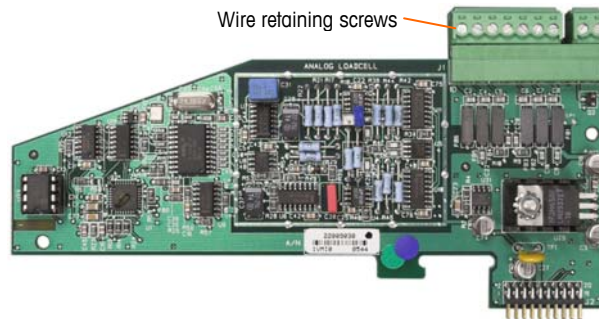
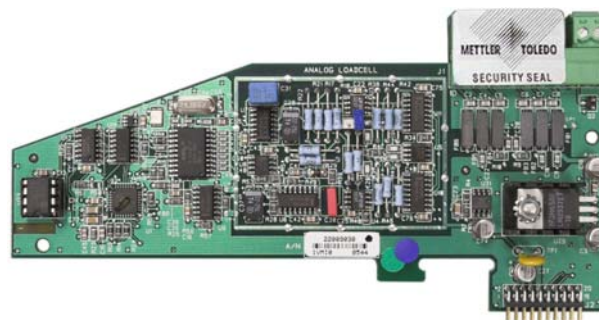

Figure A-93: Unprotected Option Board Connection
Figure A-94: Security Seal Installed
3. To protect the load cell interconnecting cable/s (attached to option boards), a security seal must be placed over the connectors to ensure that they are not removed or disconnected. The seal also prevents access to the wire retaining screws indicated in Figure A-93. Figure A-94 shows a seal in place.